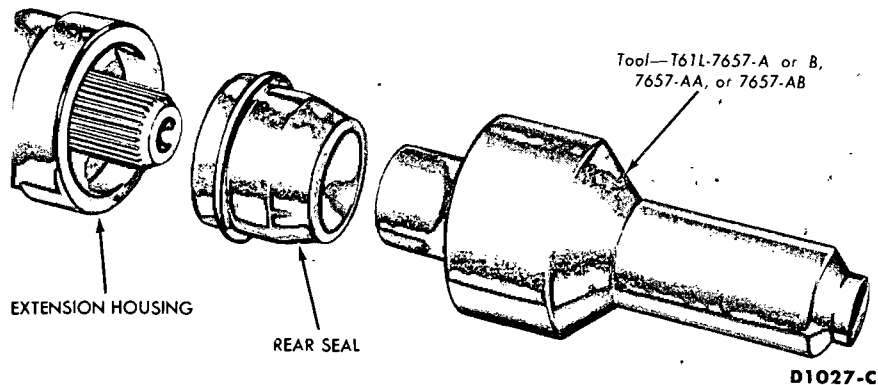

FIG. 31—Installing Extension Housing Seal
6. Install the seal into the housing with the tool shown in Fig. 31. The seal should be firmly seated in the bore. Coat the inside diameter of the fiber portion of the seal with B8A-19589-A lubricant.